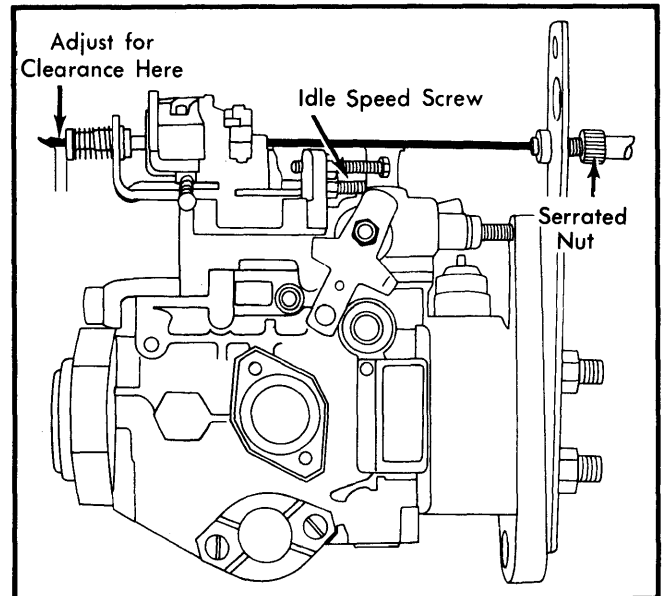

Fig. 2 Diesel Idle Adjustment Locations
1) With engine warm, attach tachometer. Check to see that accelerated idle stop is not in contact with throttle lever and that accelerator cable is released. Adjust set screw to obtain idle speed as listed in table. See Fig. 2.